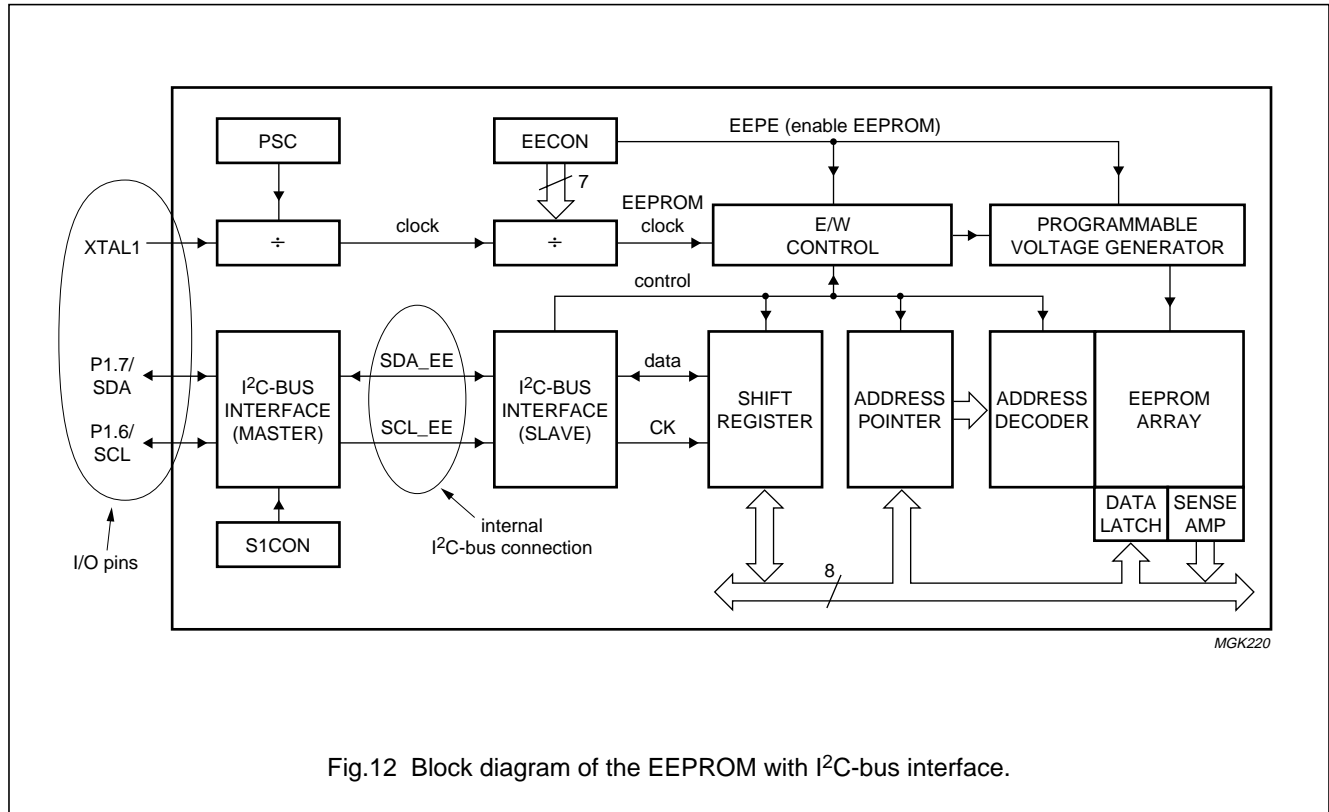
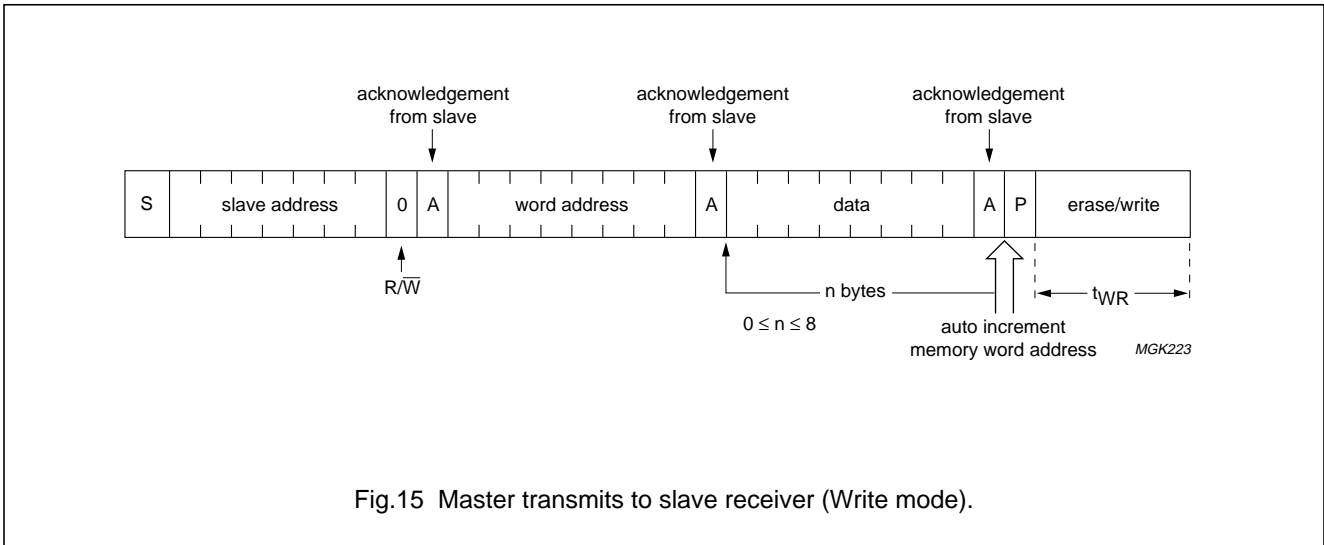

Fig.12 Block diagram of the EEPROM with I2C-bus interface.
Fig.15 Master transmits to slave receiver (Write mode).
After addressing the EEPROM with the  $R/\overline{W}$  bit set to a logic 0, the EEPROM responds with an acknowledge and expects to receive a word address, followed by a byte of data to be written. In the case of a 512-byte EEPROM, the bit before  $R/\overline{W}$  is the MSB of the word address of the byte to be written (A8). The master then sends the word address (A0 to A7), to which the EEPROM sends an acknowledge (A). Finally the master sends the data to be written, acknowledged by the EEPROM. The master sends a Stop condition (P) to start an Erase/Write cycle. The cycle takes typically 10 ms and is controlled by the E/W control circuitry (see Fig.12). The byte write sequence is shown in Fig.15, for the case  $n = 1$ .
Then the first data byte is sent, and instead of immediately generating a Stop condition, the master sends up to 7 additional bytes; the 3 lowest bits of the address are automatically incremented, the highest bits remain fixed. The EEPROM acknowledges each data byte. Finally a Stop (P) is generated to start an Erase/Write cycle. This sequence is shown Fig.15.
- Abort the write procedure, by sending a Start (S) and repeating the complete page-write procedure of Fig.15
- Start and Erase/Write cycle by generating a Stop (P). The first 8 bytes transmitted will be written into the EEPROM cells.
To achieve these programming times, the E/W control circuit requires a clock (EEPROM clock, see Fig.12) with a frequency between 51 and 63.75 kHz (max.). Frequencies lower than 51 kHz are acceptable, but result in a programming time greater than 10 ms. The frequency of XTAL is divided by the contents of the PSC register to define the internal clock frequency. This clock is then divided by the contents of the EEC0 to EEC6 bits to generate the 51 kHz EEPROM clock. The Erase and Write times are obtained by further dividing this clock by 255.